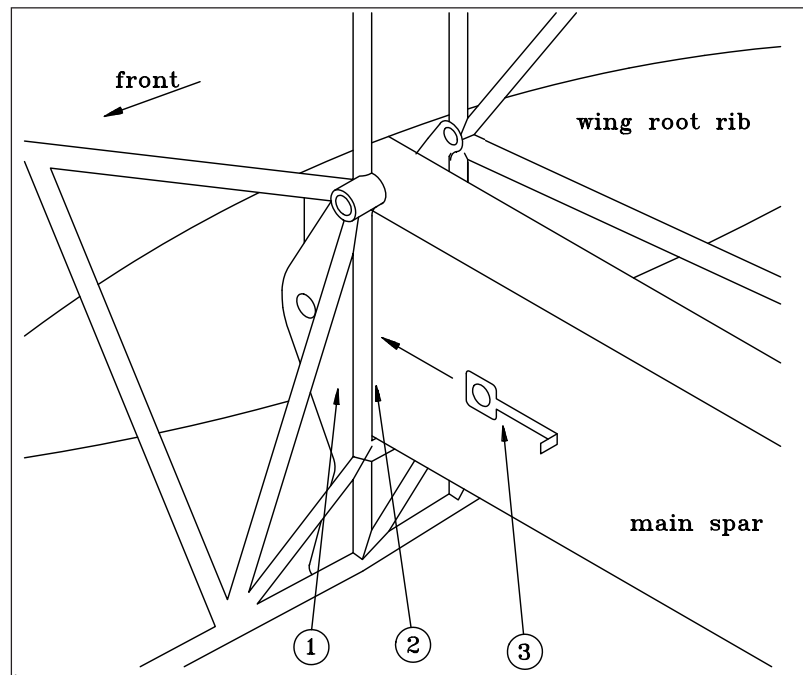
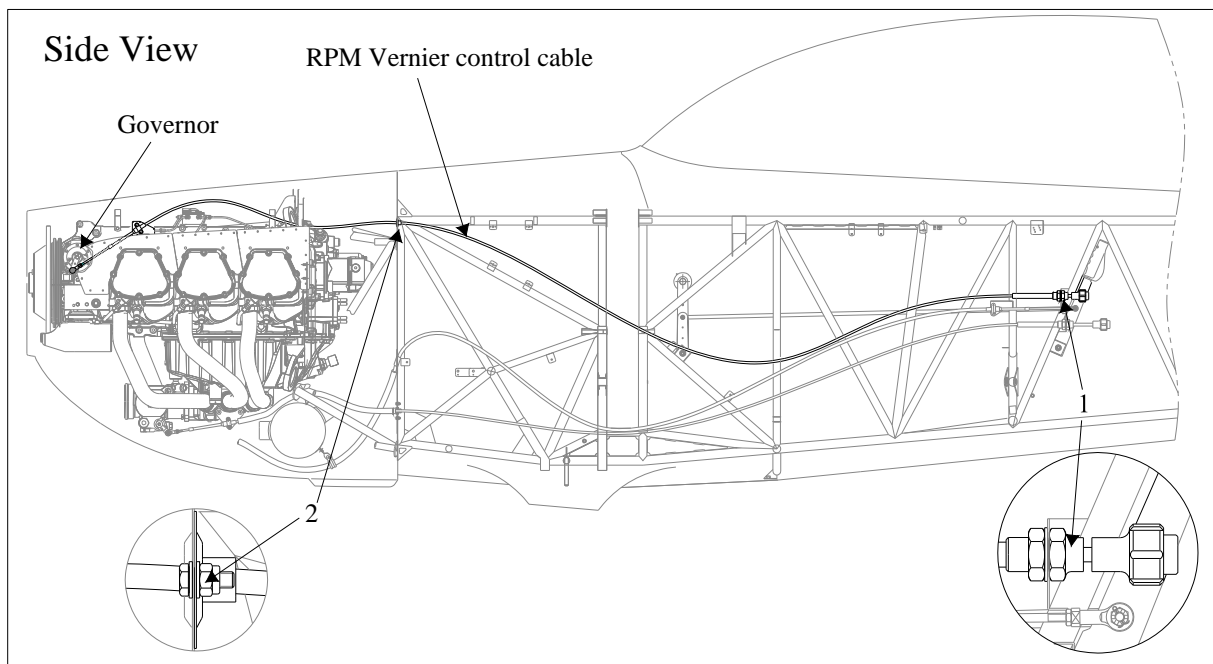

Figure 2 Shims Installation
Figure 1
If there is clearance between the main spar and the attachment brackets (1, Figure 2), use shims (3) like shown below which are to be slid in the front gaps (2).
The propeller blade pitch change is conducted by a governor (refer to Figure 1). Once an engine rotational speed is selected it will be held constant independent of airspeed or power variations.
The governor itself is actuated via a vernier control cable ending on the left side of the rear cockpit (blue control knob; 1, Figure 1 & 8, Figure 2). This cable is routed on the left side of the fuselage, penetrates the firewall, the rear engine baffles and is then routed to the governor. The cable is attached at its front end to the engine by a clamp block and in the cockpit area to the steel tube structure by self-clinching plastic tiedown straps. The RPM vernier control unit is mounted to a fuselage bracket. The firewall and engine baffle penetrations are covered with clamp sheets. The firewall penetration (2, Figure 1) is additionally sealed with firewall sealant (see Chapter 51-30-04).